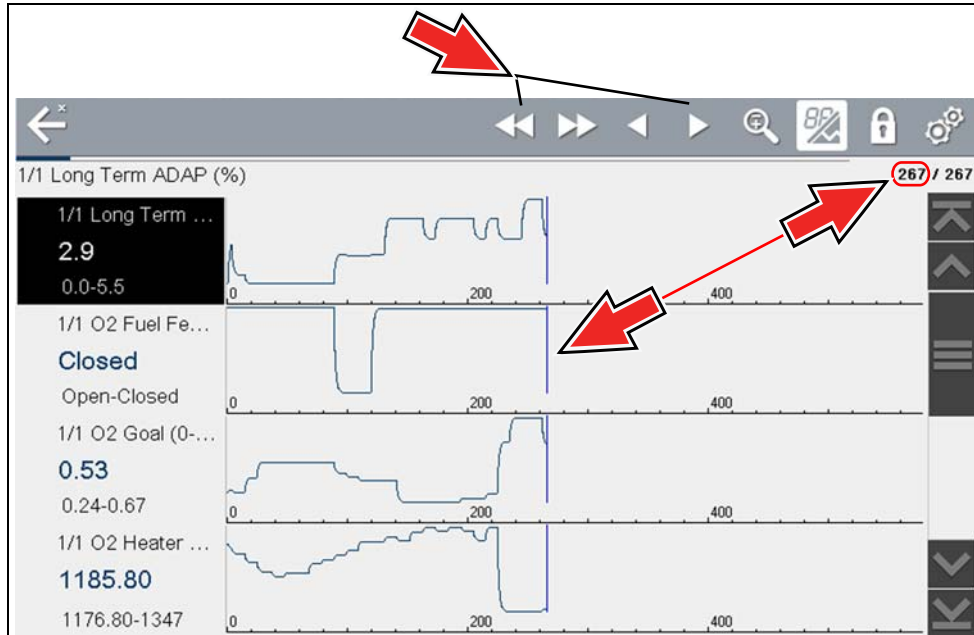

Figure 6-35
3. In graph view, use the control icons to move through the data (Figure 6-35).
The blue (vertical cursor) (Figure 6-35) indicates your position in the data and is denoted by the current position value (Figure 6-35) in the counter display. The cursor displays in all PIDs.
Pressing the Save icon more than once in the same data collection session will create multiple (.SCM) files. Each file will contain gray (vertical cursors) (Figure 6-35) indicating where the data was paused.